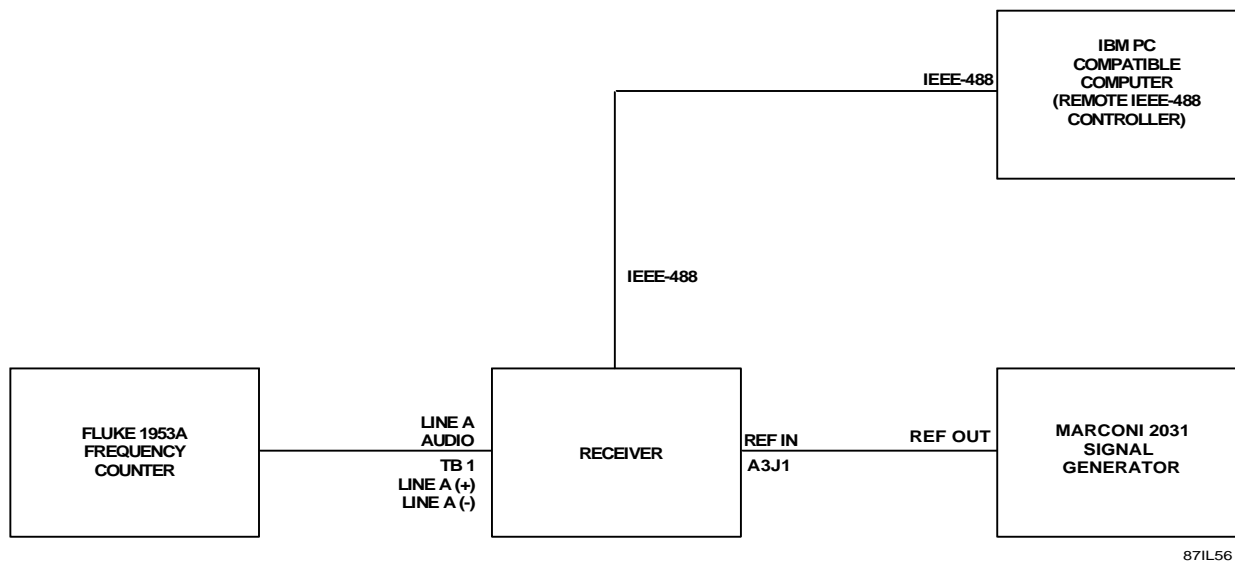

Figure E-6. IEEE-488 Performance Test Equipment Connections
1. Connect the receiver and test equipment as illustrated in **Figure E-6**.